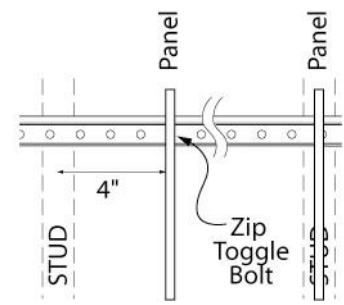

Fig. 7
7. Fasten the rail to the wall with a Zip Toggle Bolt for each panel more than 4" from a stud. (See Fig. 7.) **THE RAIL MUST BE ANCHORED A MINIMUM OF EVERY 16" ALONG ITS LENGTH AND NO MORE THAN 4" FROM ANCHOR TO VERTICAL PANEL.**